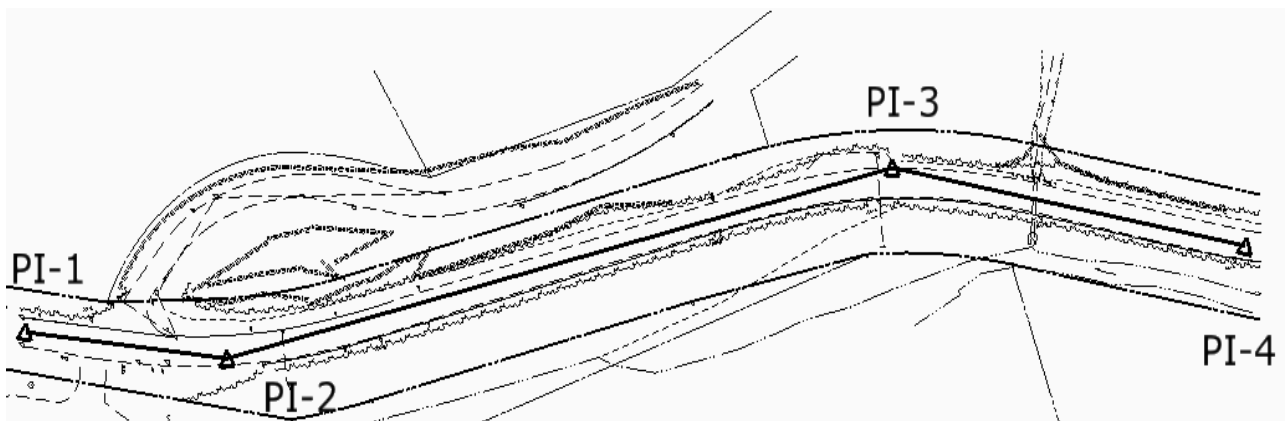

Figure 4-1 MicroStation View of an InRoads Generated Alignment
Proper engineering design of roadways is important and should follow state and federal guidelines. The Connecticut Department of Transportation Highway Design Manual and the AASHTO Geometric Design of Highways and Streets are the main sources for Engineering Design References. For most standard CTDOT roadway designs, the PI method is most often used for the layout of horizontal geometry. This method involves identifying the horizontal tangent line at the Point of Intersection (PI). The original ground survey drawing is used as a reference for locating existing geometry tangents and PIs to tie in to. Figure 4-1 shows an example of three (3) tangent lines defined by four (4) PIs. PI-1 defines the Point of Beginning (POB) on this alignment, while PI - 2 and PI-3 are true points of intersection; PI-4 defines the Point Of End (POE). These four points were defined using the insert PI command. Note: This next lab (Lab 5) will focus on the basic InRoads tools used to layout horizontal control geometry.